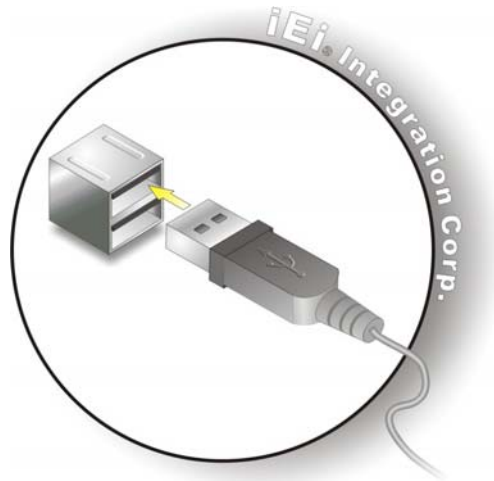

Figure 3-8: USB Device Connection
Step 2: Align the connectors. Align the USB device connector with one of the connectors on the AFL3-W07A-BT-N1. See **Figure 3-8**.